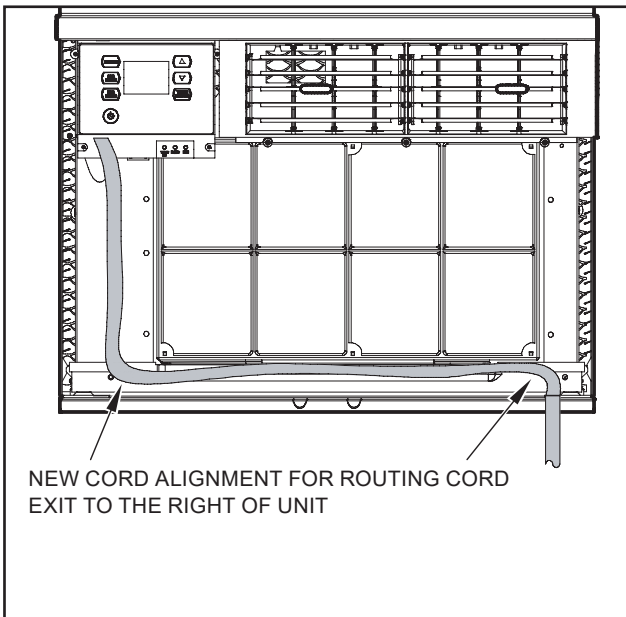

Figure C.6.4
STEP 2. Route the cord along bottom inside of the unit (see Figures C.6.4 and C.6.5), under the lower left mounting screw embossments and exit the cord through right side cord opening (see Figure C.6.4) of the decorative front cover. Decorative front cover will keep cord in place.